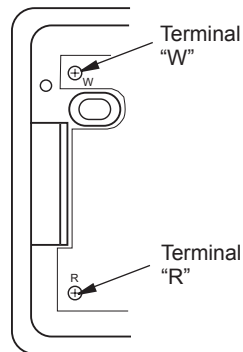

Figure 35 - Thermostat Base Terminal "W" and "R"
7. Connect one bare wire end to each terminal ("W" and "R") of the thermostat base (see Figure 35).